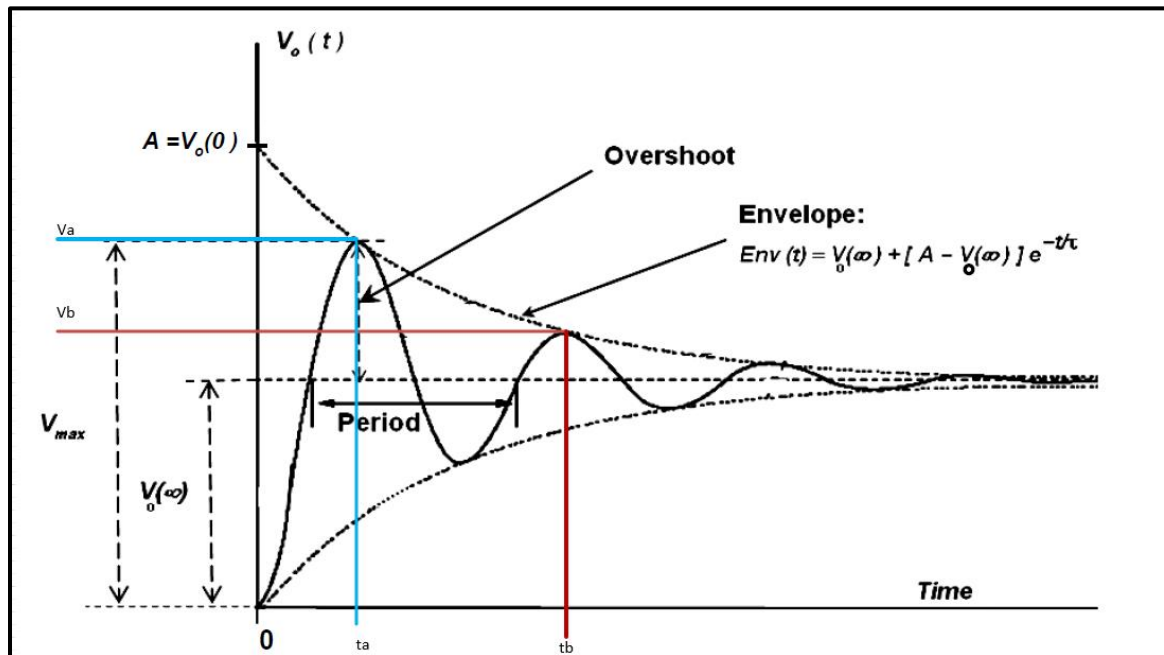

Figure 5.7: Example of calculating α and ω_d of underdamped response
3. For $R = 500 \text{ }\Omega$, calculate the roots of the characteristic equation, **showing the value of α and ω_d** and write an expression for $V_C(t)$. Use PSPICE to do transient analysis of the circuit, show $V_C(t)$, and measure **α and ω_d using cursors as shown in figure 5.7.**
1. For $R = 4 \text{ k}\Omega$, calculate the roots of the characteristic equation **showing the value of α and ω_d** . Write an expression of $V_C(t)$. Use PSPICE to do transient analysis of the circuit, show $V_C(t)$, and measure **α and ω_d using cursors as shown in figure 5.7.**
2. Use cursors to find the values of V_a , t_a , V_b , t_b , and $V(\infty)$, as shown in figure 5.7, record results in Table 5.3.
2. Use cursors to find the values of V_a , t_a , V_b , t_b , and $V(\infty)$, as shown in figure 5.7, record results in Table 5.4.